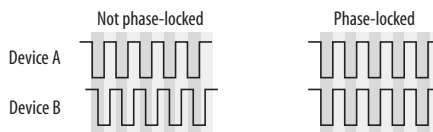

Figure 4-9: When transferring audio, two devices must have phase-locked audio clocks to prevent clicks, pops or other artifacts.
- Synchronizing with other digital audio devices so that their digital audio clocks are *phase-locked* (as shown in Figure 4-9)